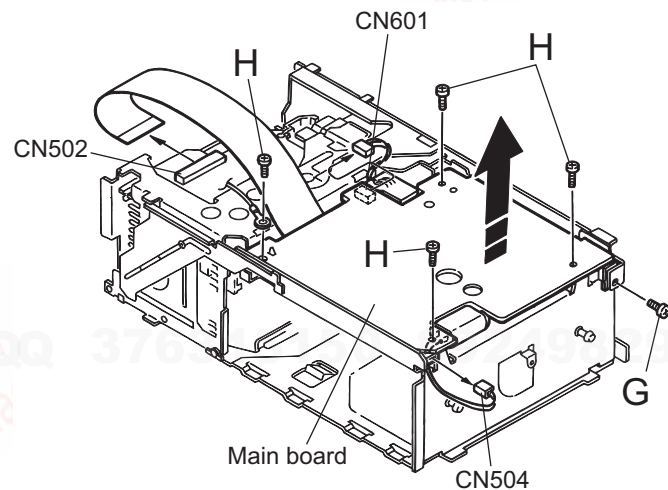

Fig.11
3.1.4 Removing the main PCB assembly (See Fig.11)